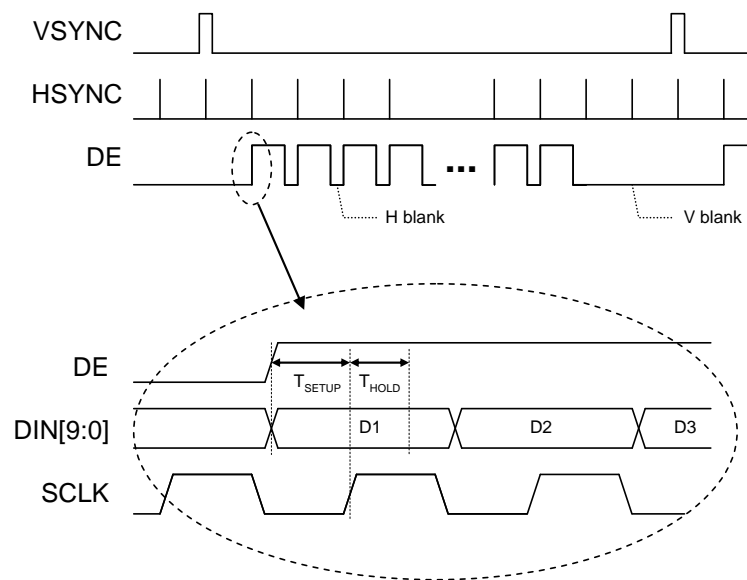

Figure 4 : Input Data timing diagram.
The 30-bit digital input port is comprised of three 10-bit data busses that make up the 3 subpixel data inputs. Separate synchronization signals (VSYNC and HSYNC) and the pixel clock (SCLK) are to be provided by the external video source. The data valid signal (DE) is used to signal the start of loading a row of data into the internal line memory. An active ENABLE signal is required for the Stereovision mode (inactive for all other modes, except Interlaced Video). The timing diagram for the input data bus is shown in Figure 4.